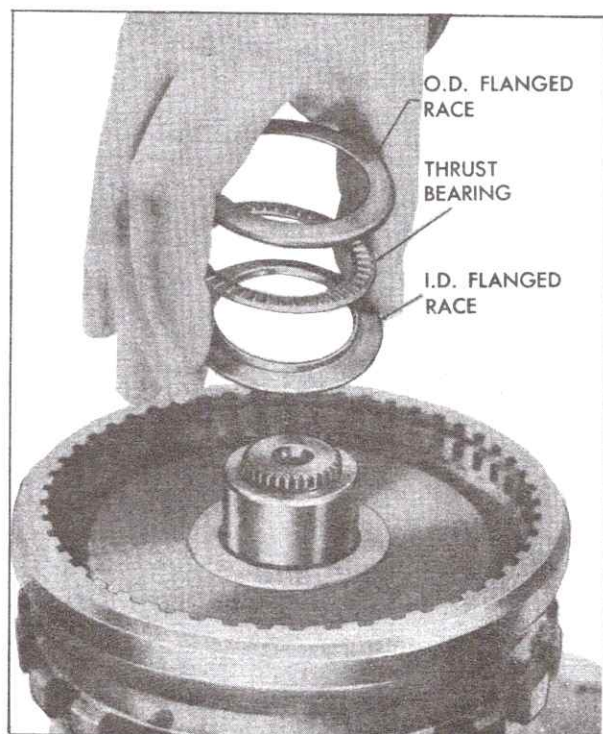

Fig. 7-169 Installing Races and Thrust Bearing on Outer Face of Rear Internal Gear
1. Install small diameter (flanged I.D.) race first, with flange facing up, Fig. 7-169.